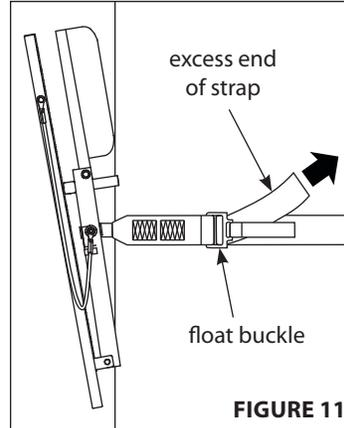

FIGURE 11
- c. Pull on excess end of strap firmly - snugging up stand to tree. **SEE FIGURE 11.**